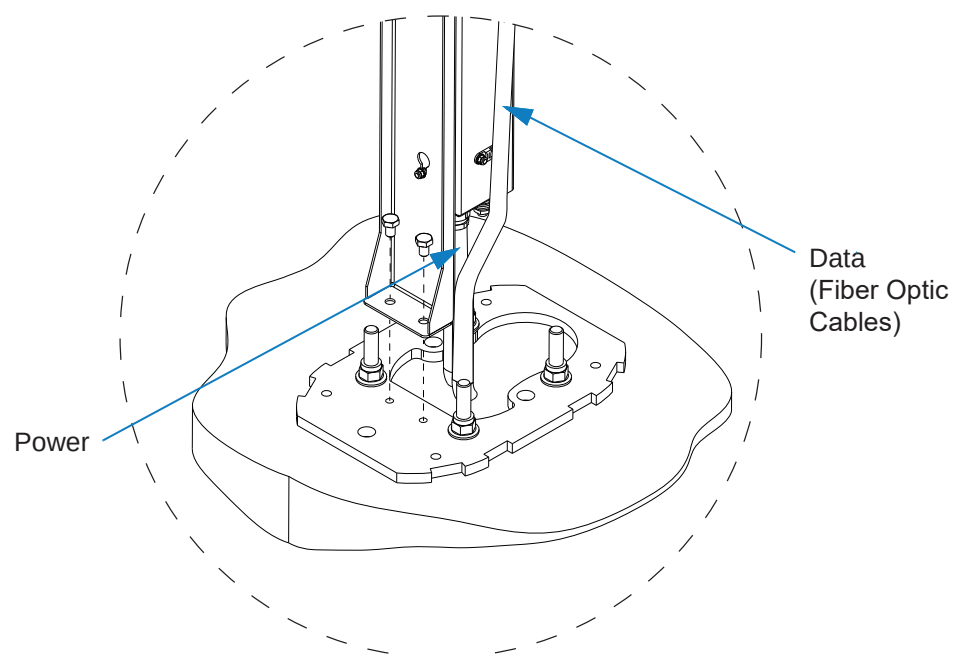

Figure 3-6 Data and Power Cables
- Step 3** **Bottom Fed Conduit Entry:** Ensure the power source is passed through a conduit from the bottom of the column up to the entrance point at the bottom of the Power Supply Junction Box, see **Figure 3-6**. The data cables are passed through another conduit into the column from where they are routed outside the Power Supply Junction Box to the media converter.